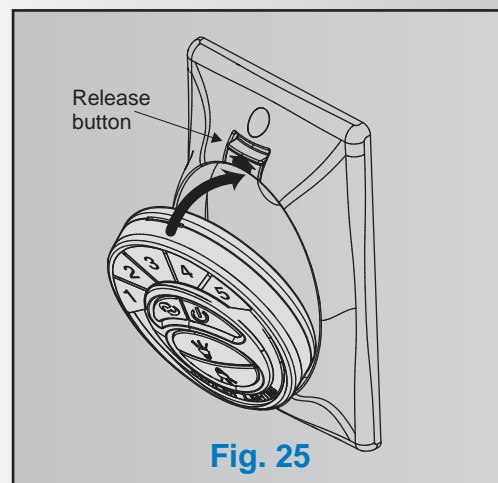

Fig. 25
1. Insert the transmitter into the wall plate by inserting the bottom of the transmitter first and then press the top of the transmitter into the pocket. The transmitter will fully function from this location or you can remove the transmitter and use as a "Hand Held" device. (Fig. 25)